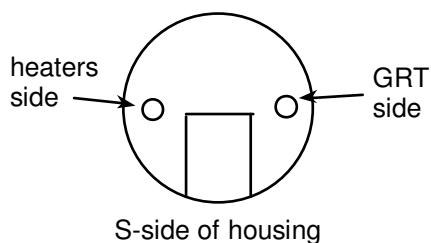

Figure 5. Location of GRT and Heater wires on Gyro Assembly
- 8.1.3 Insert the GRT Assembly, Short, P/N 23179-202, into the right side hole of the gyro housing, looking into the S-side of the housing. Insert the Heater Assembly, Gyro and Readout Cable, P/N 23550-101, into the hole on the other side of the housing. See Figure 5 below. Record Serial Numbers in Table 3 below. The GRT and Heater Designations are given in this table.